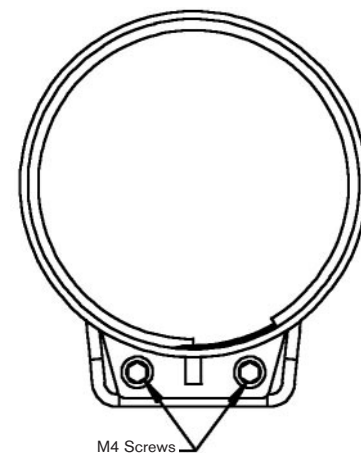

FIGURE 1 Removing the M4 Cover Screws
2. Use a M7 hex wrench or socket to remove the two M4 screws from the housing cover. Save all hardware, which will be needed in reassembly. See FIGURE 1.